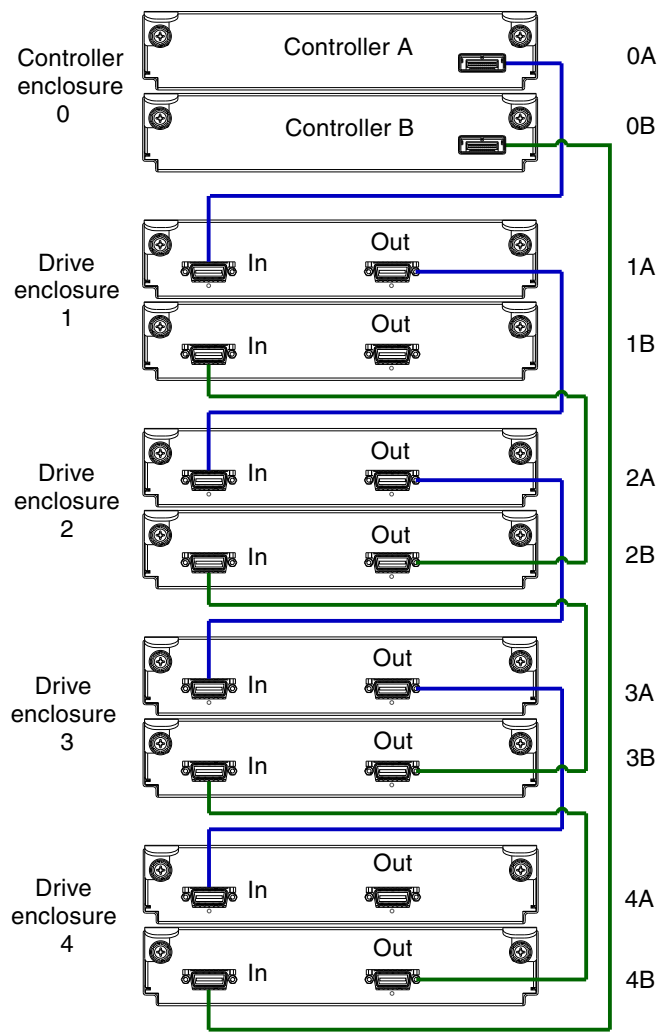

Figure 4 Fault-tolerant cabling between a dual-controller enclosure and four 2130 drive enclosures
For example, Figure 4 on page 23 shows fault tolerant cabling wherein controller 0A is connected to expansion module 1A, with a chain of connections continuing down. Controller 0B is connected to the lower expansion module (B) of the last drive enclosure in the chain, with connections moving in the opposite direction. Several cabling examples are provided on the following pages.
- You may need to order additional or longer cables when cabling a fault-tolerant configuration (see Figure 4 on page 23).
It is conceivable that FRU updates may negate the need for the sandwich-style stacking of a controller enclosure between drive enclosures, thereby allowing for the more conventional approach to fault-tolerant cabling, described in Figure 4 on page 23.